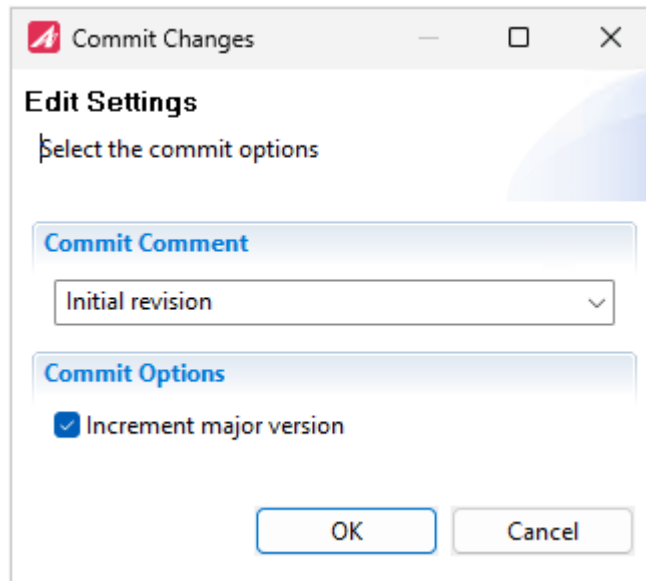

Figure 6.102: Comment for the initial revision of the commit
- A new version of the requirement will be created and you need to decide either to increment the major or the minor version number within the check-in dialog (see figure 6.102).